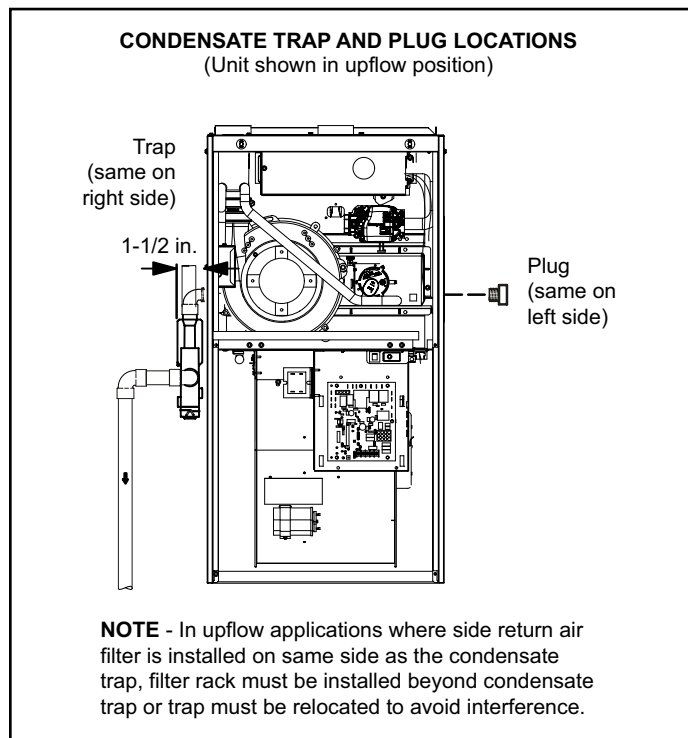

Figure 52.
This unit is designed for either right or left side exit of condensate piping in upflow applications. In horizontal applications, the condensate trap must extend below the unit. An 8" service clearance is required for the condensate trap. Refer to Figure 52 for condensate trap locations. Figure 59 shows trap assembly using 1/2" PVC or 3/4" PVC.
2. Use a large flat head screw driver or a 1/2" drive socket extension and remove plug (Figure 52) from the cold end header box at the appropriate location on the side of the unit. Install provided 3/4 NPT street elbow fitting into cold end header box. Use Teflon tape or appropriate pipe dope.